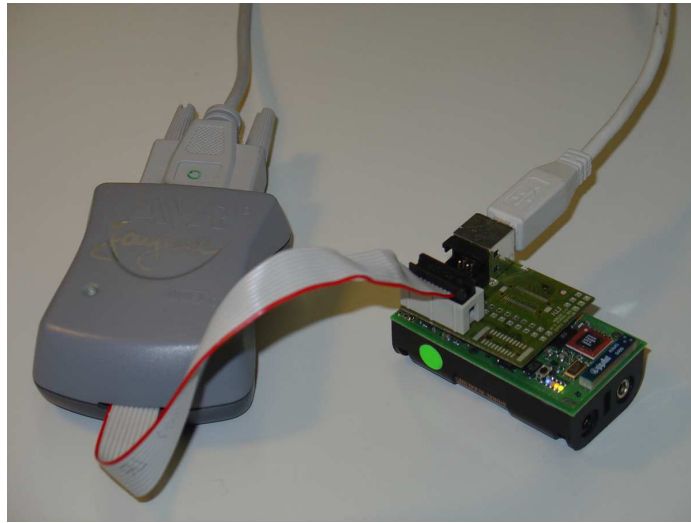

Figure 2.6: Debugging a BTnode using a USB connection to a serial port and ISP programming with the Atmel ATAVRISP.
**Exercise 12** Now connect a BTnode to your PC using a usbprog board and a USB cable (see figure 2.6). Further connect an Atmel ATAVRISP programmer to the usbprog board and to a serial port on your PC. The default settings are `/dev/ttyS0` for programming through an ATAVRISP and `/dev/ttyUSB0` for debugging through the serial port of the BTnode. (If in doubt about the right serial port for debugging use the `List_USB2UART` script on windows or check `/var/log/messages` on linux.).
Be sure to orient the usbprog board correctly as shown in figure 2.6. The board goes above the power switch of the BTnode with the two mounting holes matching those on the BTnode. If in doubt about the right serial port for debugging use the `List_USB2UART` script on windows or check `/var/log/messages` on linux.